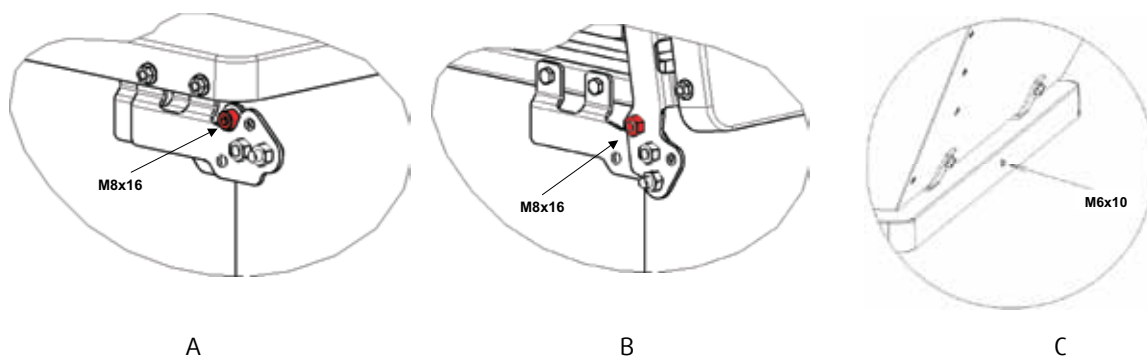

Fig. 9: Secure DVEX fan
- ☞ Prepare the fan with hinged frame for connection and secure (see Fig. 9 A, B, C)
- ☞ If a hinged frame is used, secure the DVEX fan as shown in Fig. 9.